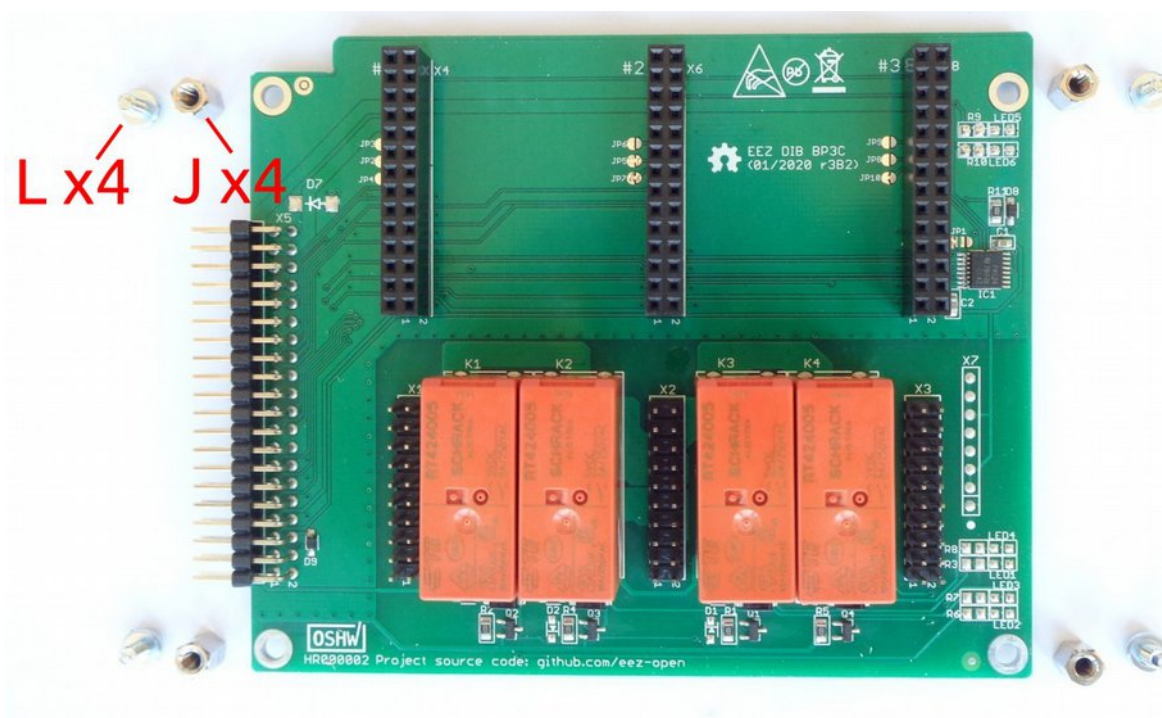

Fig. 8: BP3C backplane with mounting parts
Attach the hexagonal metal spacers (J) using screws (L) to the four holes at the corners of the module. Repeat the same procedure on the BP3C backplane shown in Fig. 8.